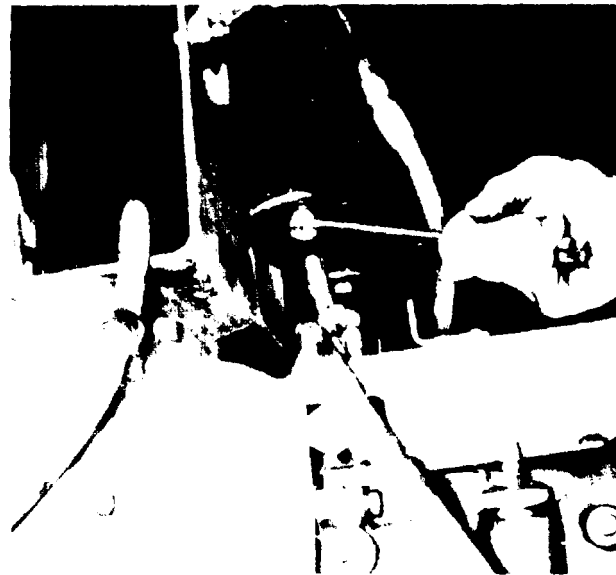

FIGURE 4-7. CHANGING STEERING HYDRAULIC FILTER.
b. Remove the stud from the bottom of the shell (see figure 4-7). Remove the shell with the element.